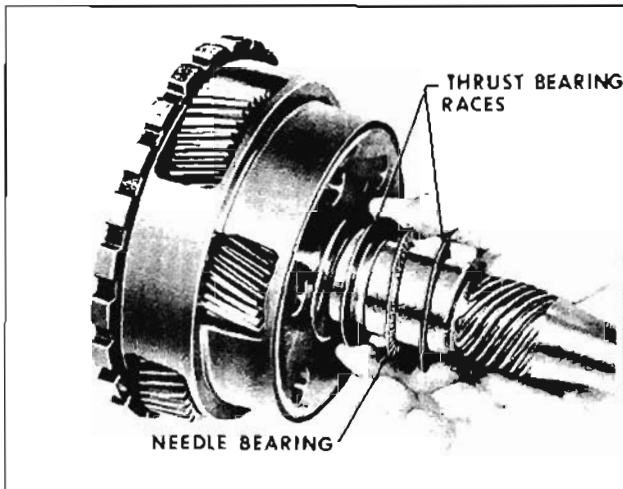

Fig. 6-426 Installing Thrust Bearing
1. Install thrust bearing race with a lip, needle bearing and a second plain thrust bearing race to the rear face of the planetary gear set. Retain with grease. (Fig. 6-426)